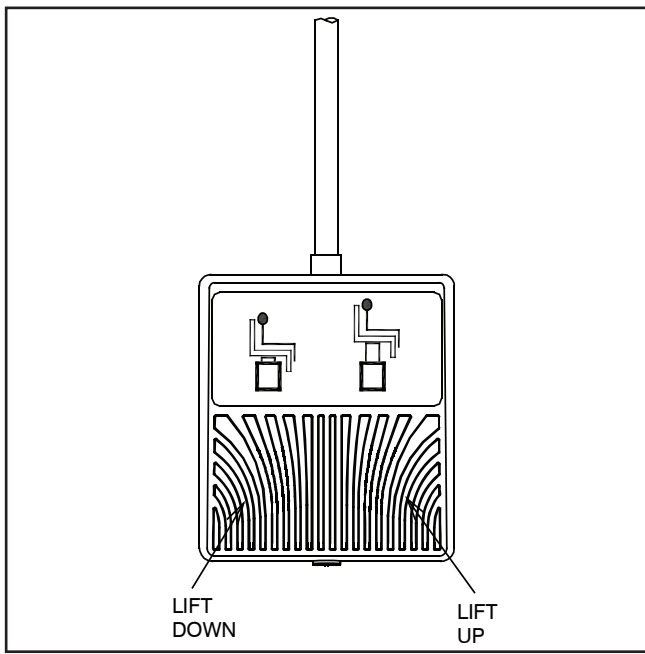

FIGURE 2
- For operation from the Footswitch (Figure 2), depress the right side of the pedal to raise the Chair lift.